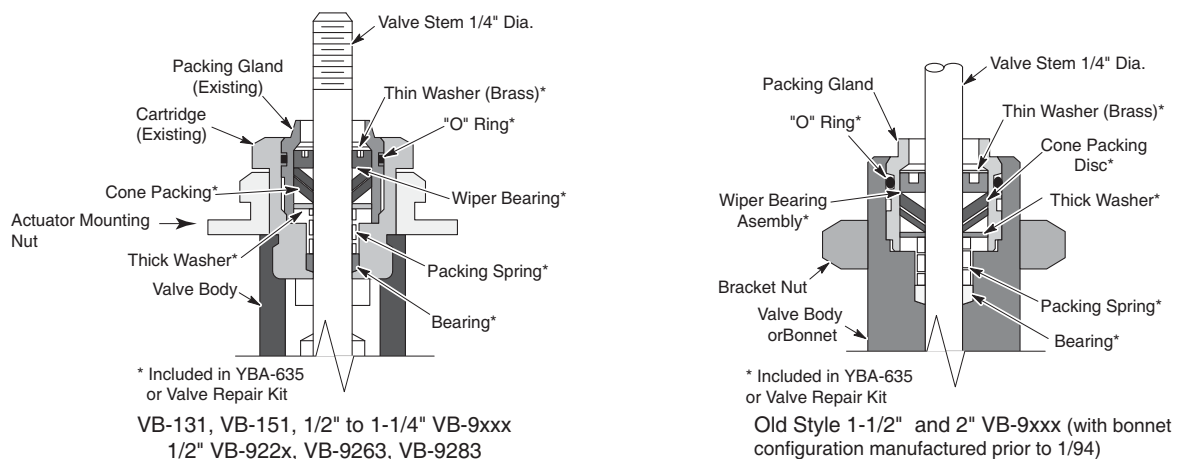

Figure-2 Installation of YBA-635 Packing Parts Kit onto Discontinued Valves
- Obsolete YBA-622 has a brass thin washer (refer to Figure-2) and white top bearing.
- Remove existing packing gland with TOOL-20-1. Make sure that the retaining ring is brass and not stainless steel. Salvage existing packing gland (see Figure-2)
- If applicable, slide actuator mounting nut (see Figure-2) onto valve body with threaded section pointing upwards. Install new packing per above figure.